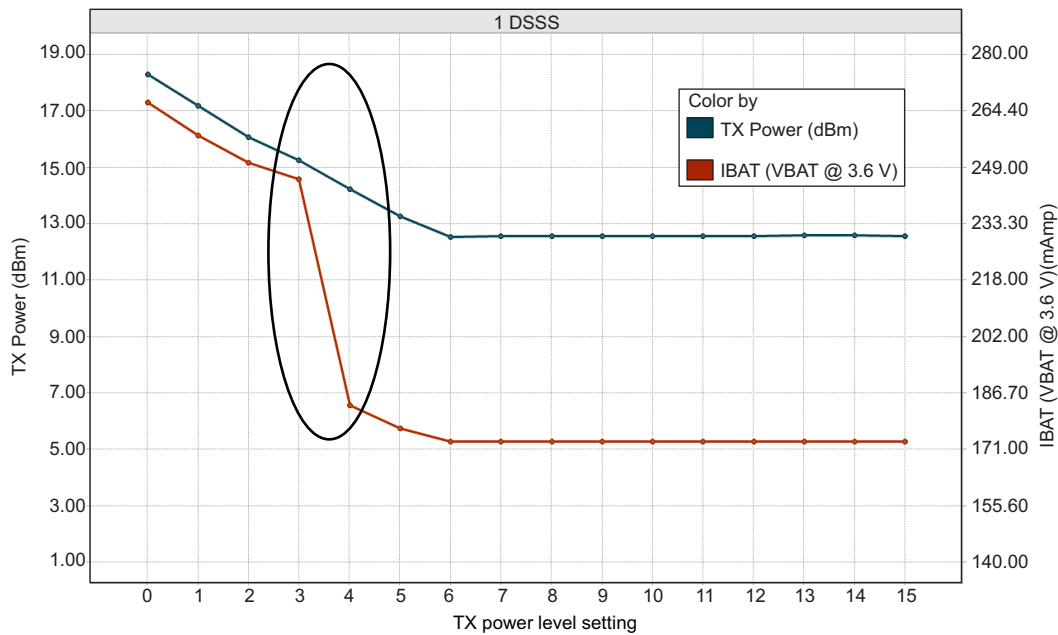
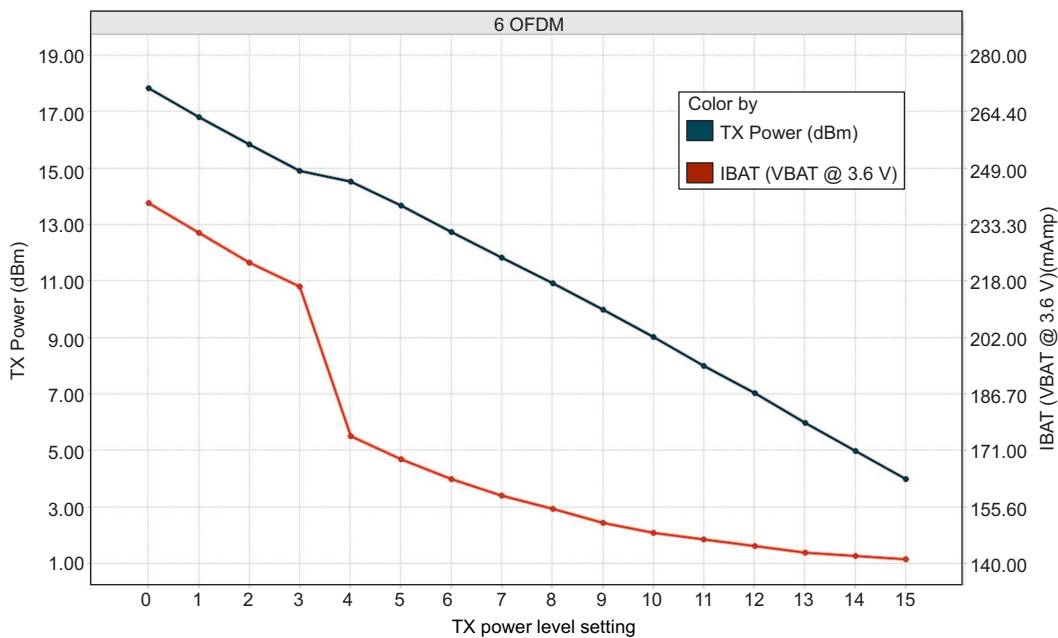
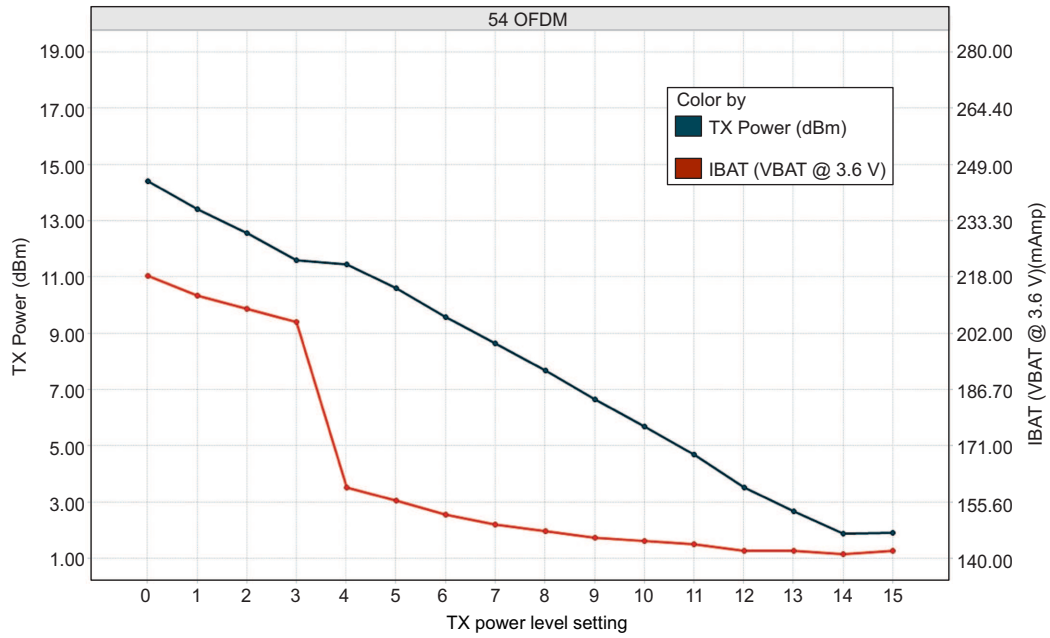

Figure 5-1. TX Power and IBAT vs TX Power Level Settings (1 DSSS)
Figure 5-2. TX Power and IBAT vs TX Power Level Settings (6 OFDM)
Figure 5-3. TX Power and IBAT vs TX Power Level Settings (54 OFDM)
- (1) TX power level = 0 implies maximum power (see Figure 5-1, Figure 5-2, and Figure 5-3). TX power level = 4 implies output power backed off approximately 4 dB.
- (2) The CC3220MODx system is a constant power-source system. The active current numbers scale based on the V_{BAT} voltage supplied.
- (3) The RX current is measured with a 1-Mbps throughput rate.
- (4) DTIM = 1
- (5) The LPDS number of reported is with retention of 256KB of MCU SRAM. The CC3220MODx module can be configured to retain 0KB, 64KB, 128KB, 192KB, or 256KB of SRAM in LPDS. Each 64-KB block of MCU retained SRAM increases LPDS current by 4 μA .
- (6) The complete calibration can take up to 17 mJ of energy from the battery over a time of 24 ms. In default mode, calibration is performed sparingly, and typically occurs when re-enabling the NWP and when the temperature has changed by more than 20°C. There are two additional calibration modes that may be used to reduced or completely eliminate the calibration event. For further details, see CC3x20 SimpleLink™ Wi-Fi® and Internet of Things Network Processor Programmer's Guide.
- (4) $\text{DTIM} = 1$
Figure 5-1, Figure 5-2, and Figure 5-3 show TX Power and IBAT versus TX power level settings for the CC3220MODS module at modulations of 1 DSSS, 6 OFDM, and 54 OFDM, respectively. For the CC3220MODSF module, the IBAT current has an increase of approximately 10 mA to 15 mA depending on the transmitted rate. The TX power level will remain the same.
In Figure 5-1, the area enclosed in the circle represents a significant reduction in current during transition from TX power level 3 to level 4. In the case of lower range requirements (14-dBm output power), TI recommends using TX power level 4 to reduce the current.